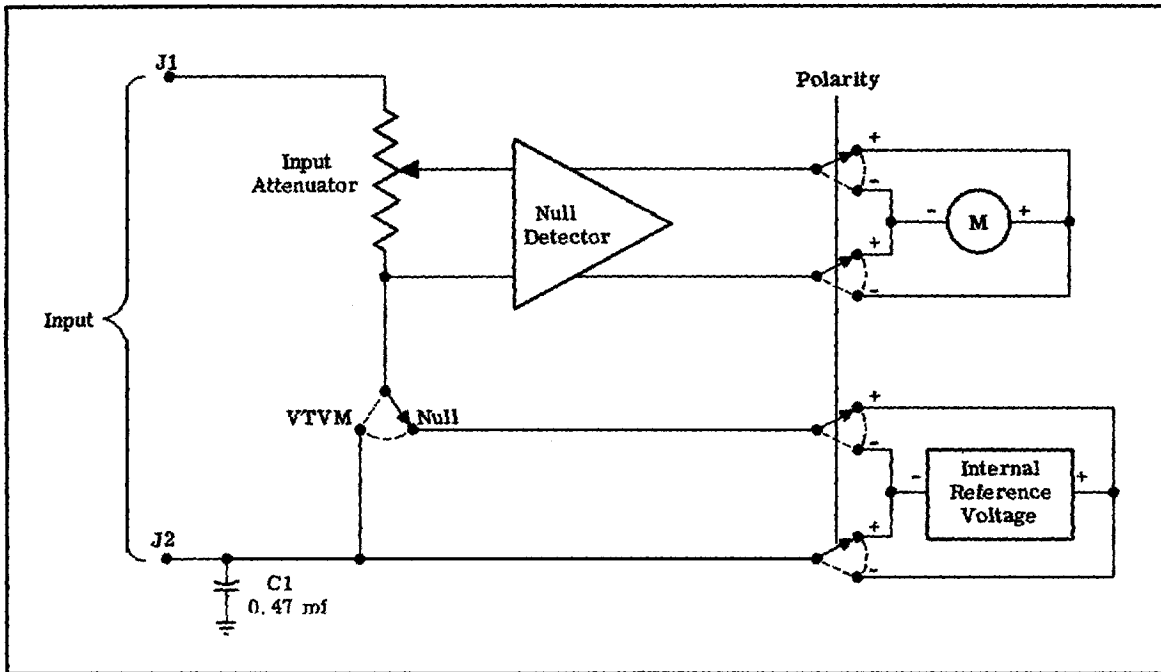

Figure 3-2. FUNCTION OF POLARITY SWITCH
b. The AC - DC polarity switch may be set to either of two positions, positive or negative, for the DC mode of operation. As seen in figure 3-2, the AC - DC polarity switch does not reverse the input posts when going from the positive to negative DC position. It reverses the meter and the internal reference supply. If the instrument did not contain positive and negative DC positions, the grounded side of any unknown voltage that is negative with respect to ground would have to be connected to the upper input binding post. This would